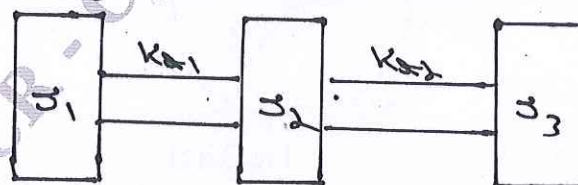

Fig.Q7(a)
- 7 a. Determine the natural frequencies of the system shown in Fig.Q7(a) by Holzers method. Given  $J_1 = J_2 = J_3 = 1 \text{ kg mt}^2$ ,  $K_{t1} = K_{t2} = 1 \text{ N-mt/rad}$ .